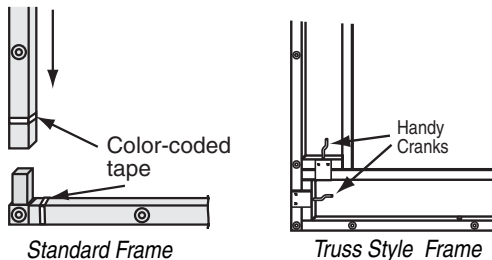

Figure 1
- ① Lay out frame pieces on floor, by matching up color-coded tape near corners. Snaps should be facing up.
- ② Assemble frame (see Fig. 1). If necessary gently tap frame ends with a rubber mallet to make sure castings are fully seated.
- ① Unfold and lay out pieces on floor, by matching up color coded marks. Lock all hinges (see Fig. 1). Stage Left and Stage Right sections should be placed with snaps *up*. Top and bottom sections should be placed with snaps *down*.
- ② To increase frame rigidity, hinges on top and bottom sections have rivnuts marked with red and green. Insert a Handy Crank through the threadless rivnut (red) and tighten into the threaded rivnut (green).
- ③ Apply small sections marked "Stiffener Bars" to back of bottom frame section, using 8 Handy Cranks. These eliminate sag on large suspended frames. Failure to use all Handy Cranks may result in screen frame damage. Turn bottom frame section over so snaps face up.
- ④ Repeat step 3 for top frame section.
- ⑤ Join top and bottom sections to Stage Left and Stage Right, using 2 Handy Cranks on each of the 4 corners. Match numbers on white labels.